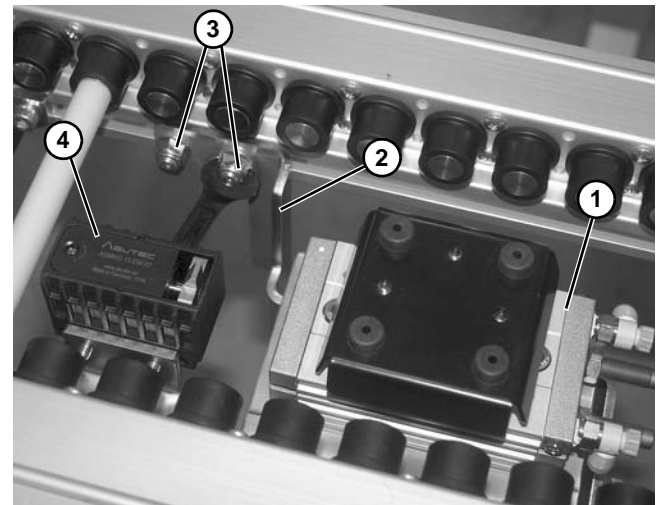

Figure 47
3. Raise lift and locate station (**Figure 47, item 1**) into position from under the conveyor, lining up two holes in bracket (**Figure 47, item 2**) with spring nuts in slotted channel of conveyor. Tighten screws (**Figure 47, item 3**).
4. Install pallet stop (**Figure 47, item 4**) at leading end. (Refer to “Pallet Stops” starting on page 8.)